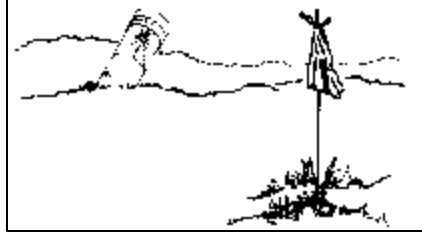

Figure 77. Marking UXO with alternate type of material.
- (4) As a general rule, the UXO hazard itself must be easily seen from any of the markers. This helps to keep others away from the hazard. It also helps the EOD team to find the hazard.
- (5) If standard UXO markers are not available, you may use other suitable materials (such as engineer tape or colored ribbons). Ensure that the same color is used to avoid confusion. When using other materials, the same principles used for the standard markers apply for placement of the makeshift markers. That is, they should be placed about 3 feet off the ground and easily seen from all approach routes. See Figure 77.